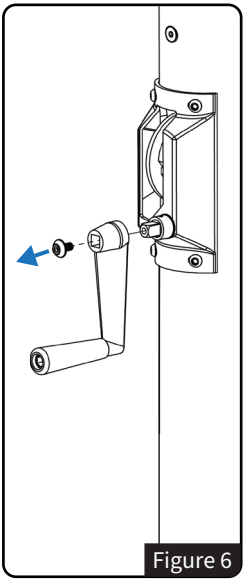
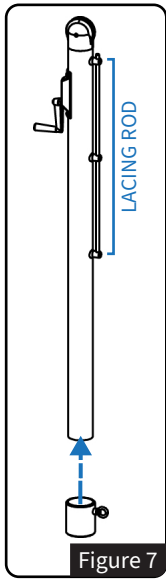
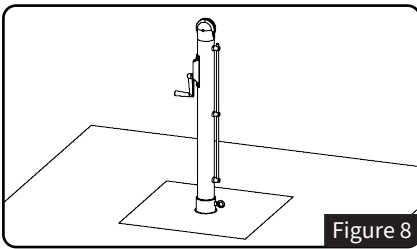

Figure 6
Figure 7
Figure 8
- Replace and tighten screw. See *Figure 6*.
- Slide Height Collar (Part F) onto Winder Post (D) and Hook Post (Part E).
- Ensure eye bolts face *inward*, on the same side as the lacing rod. See *Figure 7*.
- Remove Anchor Sleeve Caps (A) from Anchor Sleeves (B).
- Repeat for both sides. See *Figure 8*.